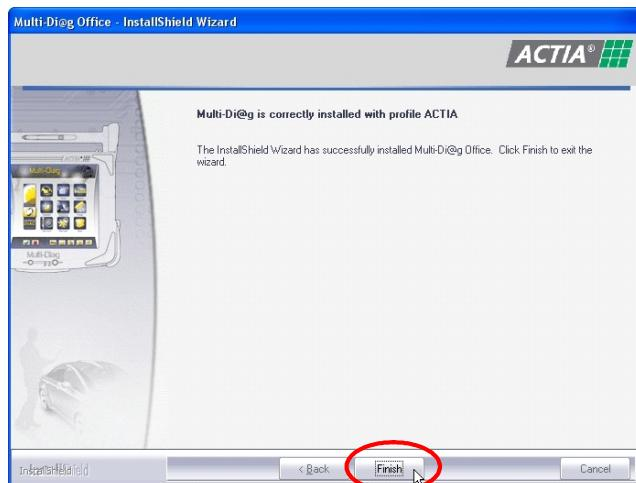

Fig. 17 – Click on "Finish" to complete the installation
**The installation may take several minutes.** Click on "Finish" to complete the installation (see Fig. 17).